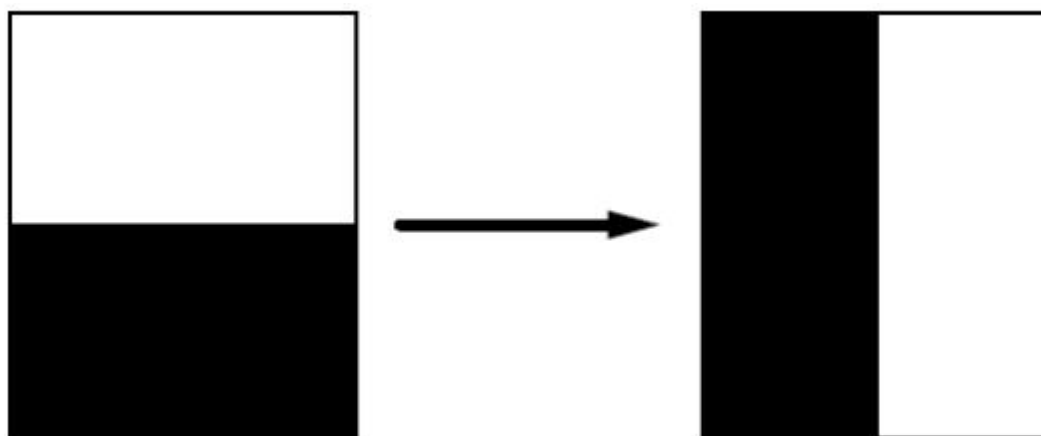

Figure 6-1 The typical power consumption measure pattern
- 2 gray scale pattern. (Figure 6-1)